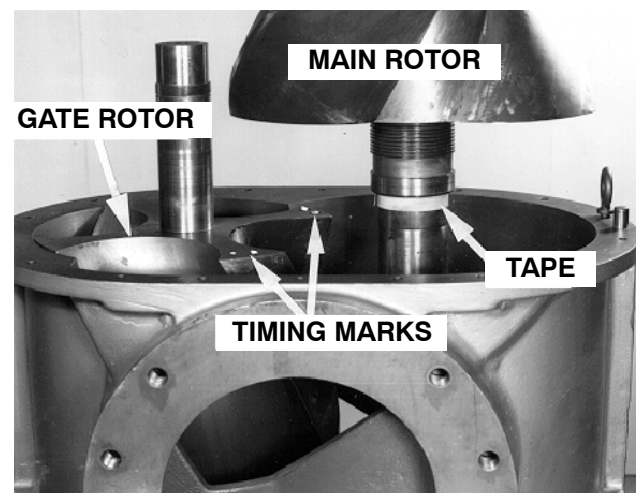

FIGURE 4
With the spacer seated against the face of the rotor, spin the spacer on the shaft several times to evenly spread the Loctite. Make sure there are no burrs on either end of the spacer or end of the rotor. Place tape around the shaft to prevent the spacer from sliding off as shown in FIGURE 4.
- Coat the inside of both shaft seals and the grooved end of the bearing spacer with "Moly" type grease for seal break-in purposes. Be sure the ends of the rotors (2, 3) and machined face of the carrier are free of burrs and dirt. The easiest method of assembly is to lower the gate rotor into the housing first (FIGURE 4). The gear end shaft extension of the rotors, with the bearing spacer installed in Step 2, goes down. Rotors must be suspended plumb when lowering so the shaft